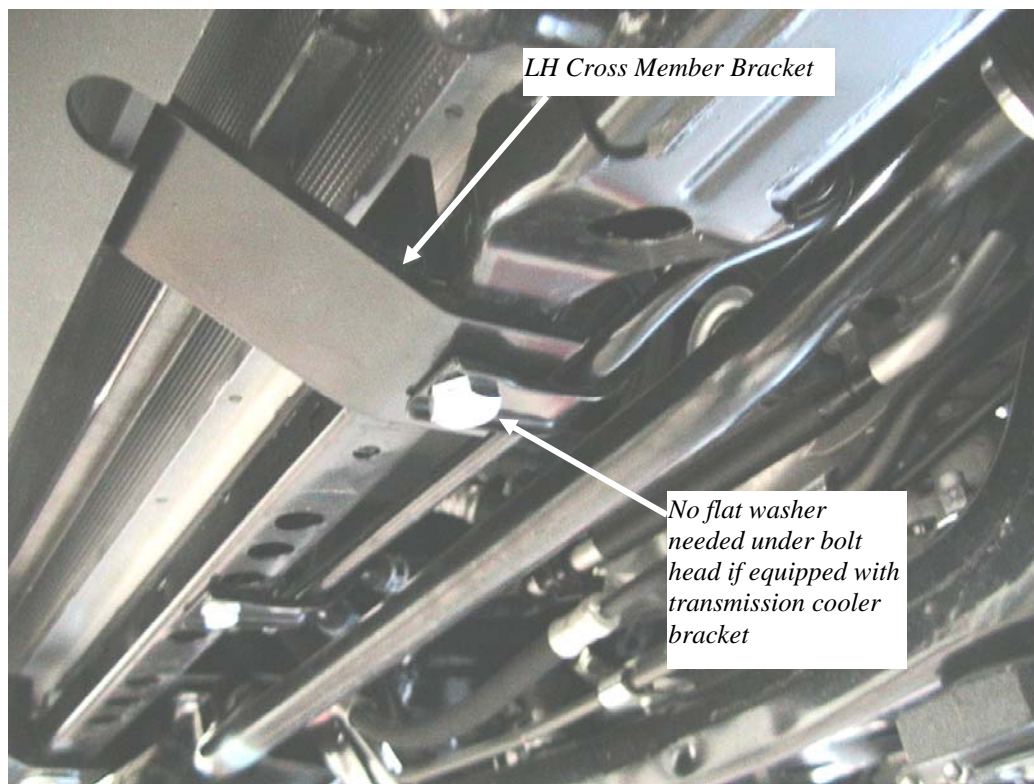

Figure 18 LH Cross Member Bracket installed
20. Repeat for the LH Cross Member Bracket. Position the Cross Member Bracket as shown in **Figure 18** if the vehicle is equipped with the transmission cooler line bracket. Insert a 1/2 x 2 1/4" bolt. Install a 1/2" flat washer, lock washer and nut. **Note: No flat washer is needed under the bolt head if equipped with transmission cooler line bracket.** Do not tighten yet.